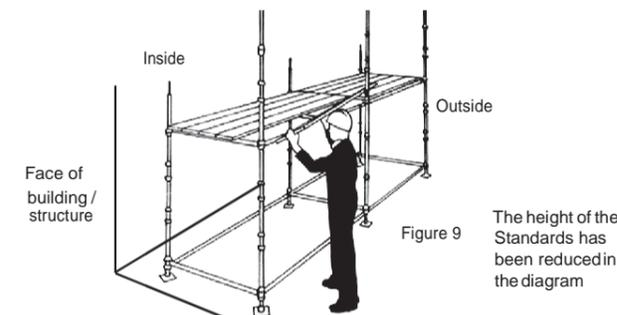

Figure 9
**10** The Working Platform can now be constructed using Scaffold Planks as decking and toeboards. Refer Figure 9.